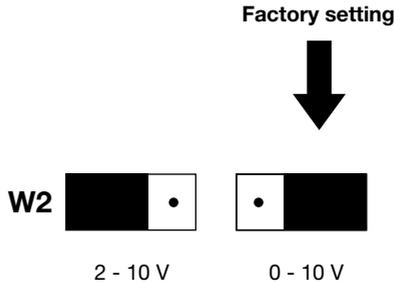

Fig. 28 Setting input signal range.
4.2.2 Setting the W2 jumper switch (input signal range, Figure 28)